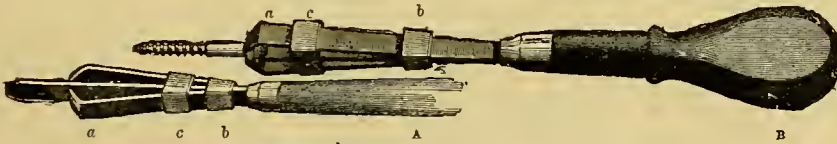

FIG. 1.—KOLB'S COMMON SENSE SCREWDRIVER.
62. *Kolb's Common Sense Screwdriver.*—Messrs. Charles Churchill and Co., 21, Cross Street, Finsbury, London, E.C., have recently added this clever invention to their stock of American tools, and have sent me a specimen for testing. The form of the screwdriver is shown in Fig. 1, in which it is represented at A with the sliding part pushed down to the handle, and at B as holding a screw,